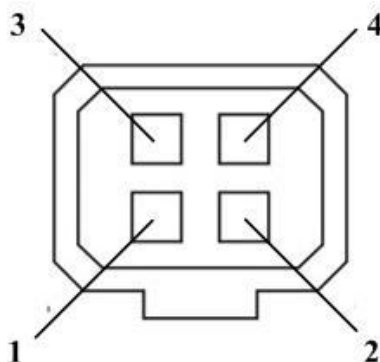

Figure 1-10 Auto-iris Interface
- The type of auto-iris interface is shown in Figure 1-10, and the definition of each pin is shown below: